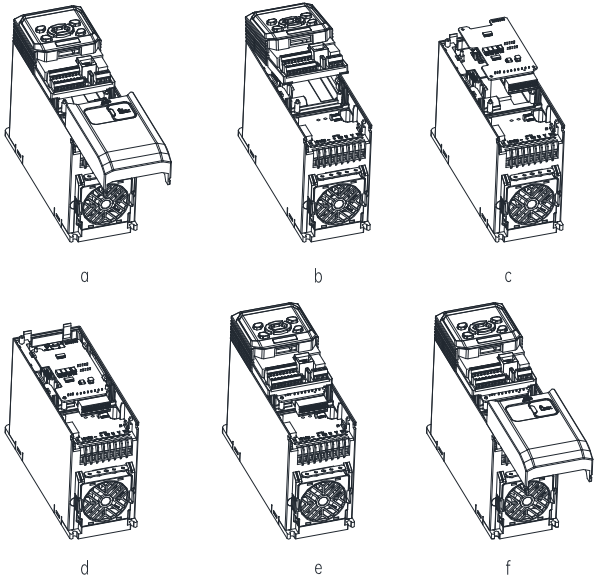

Fig. 6 PG card installation steps
- (1) When the drive is powered off, press the granulated part on the middle-upper of the lower cover, slide it down firmly to take down the cover, as shown in Fig. 6 a.
- (2) Use a straight screwdriver to pry open the two snap-fit joints between the control box and the drive, and then remove the control box upwards, as shown in Fig. 6 b and Fig. 6 c.
- (3) Install the PG card: hold the PG card with its terminal block downwards, then align the three round holes on the PG card with the location column, and press down to buckle the PG card firmly into the four snap-fit joints, as shown in Fig. 6 d.
- (4) After the PG card is installed, align the control box with the snap-fit joints, and press down the control box to make its lower part firmly buckled, then slide the lower cover to lock it on the drive, as shown in Fig. 6 e and Fig. 6 f.